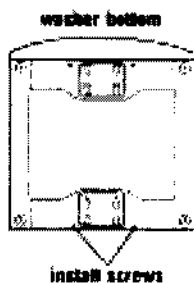

Fig. 1-4
4. Partially install the two (2) lower #12 x 5/8" (1.6 cm) hex head sheet metal screws leaving a space of about 3/8" (2 cm) between the screw head and the bottom of the washer. (Fig. 1-4)